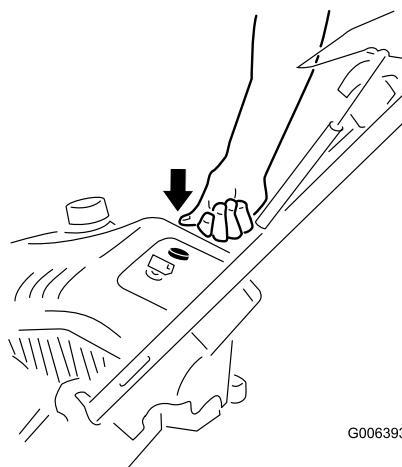

Figure 13
3. Firmly push in the primer 3 times with your thumb, holding the primer in a for a second before releasing it each time (Figure 13).